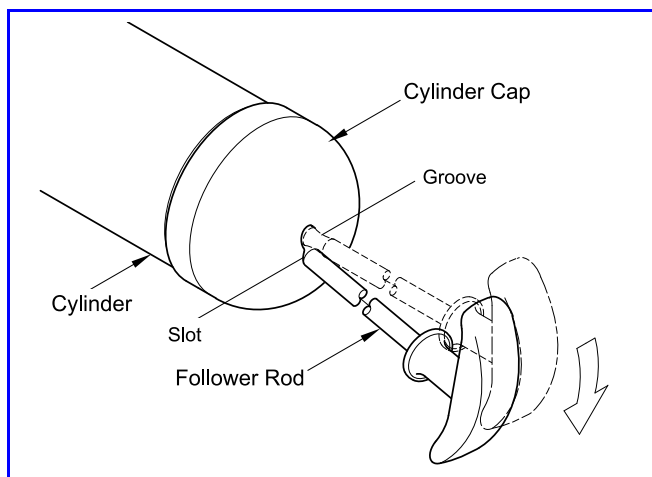

Figure 5 *Follower Rod Engaged with Back-Up Plate*
3. Rotate the Rod and allow the Locking Tabs to contact the Back-Up Plate. See **Figure 5**.